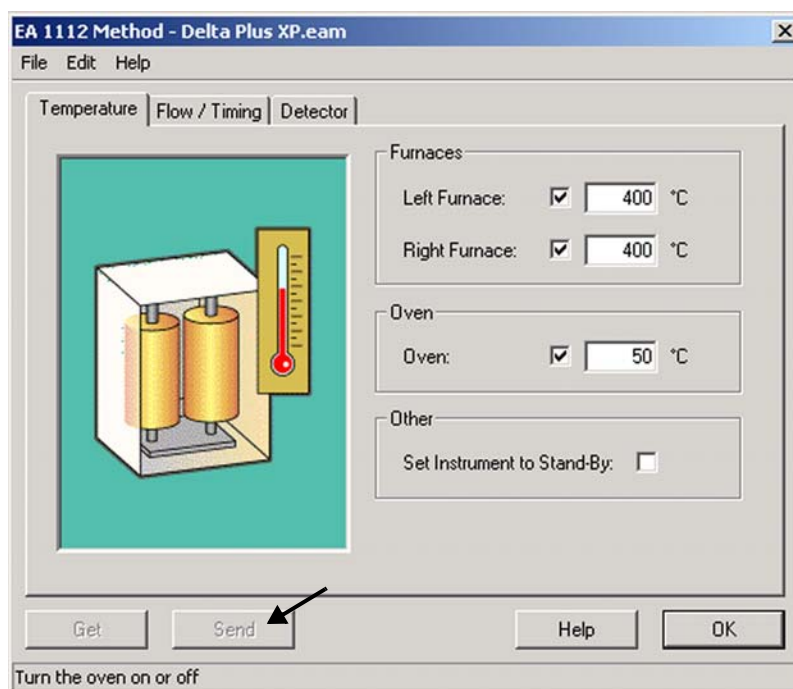

Figure 3-26. EA 1112 Method - Temperature tab
Figure 3-26 appears. Set the parameters as shown there.
2. Figure 3-26 appears. Set the parameters as summarized in Table 3-4.